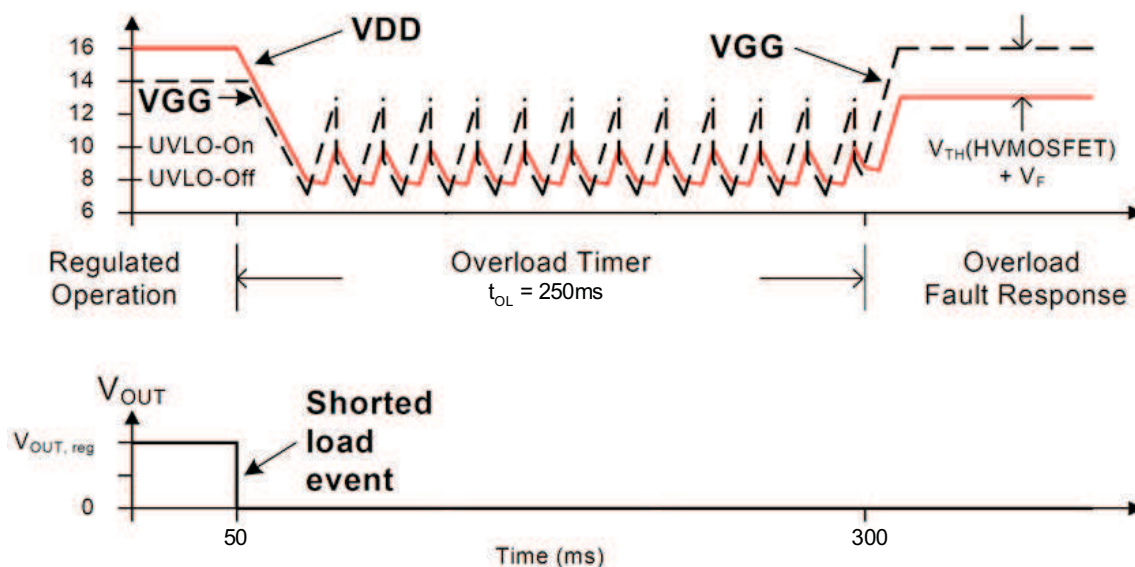

Figure 32. Overload Behavior with a Shorted Output
The UCC28610 reacts with the programmed overload response if the overload lasts longer than  $t_{OL}$  (nominally 250 ms). The overload fault responses are either (1) latch-off or (2) shutdown/retry after a retry delay of 750 ms. The overload response is programmed with the MOT pin. The forced DCM feature prevents transformer saturation and limits the average and RMS output currents of the secondary winding of the transformer. Even under short circuit load conditions, the output current of the transformer is limited to the levels that are shown in Equation 16, where  $N_{PS}$  is the primary-to-secondary turns ratio. Typical behavior for a shorted load is shown in Figure 32.